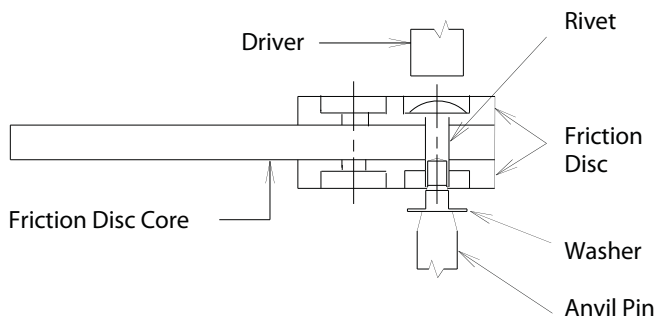
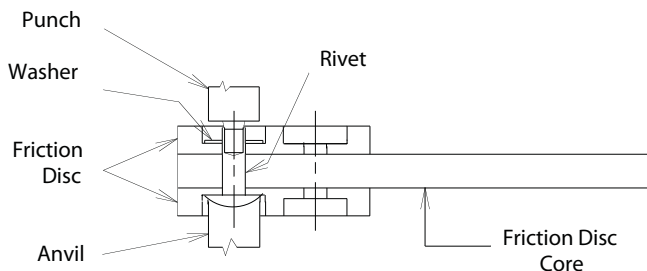

Figure 12
Figure 13
- 4.4.5 Insert a rivet through any hole and set using a washer on the clinched end of the rivet. **Figure 12** illustrates machine setting and **Figure 13** illustrates setting the rivet manually. When setting manually, use an arbor press and keep the setting tool square to avoid splitting the rivet.